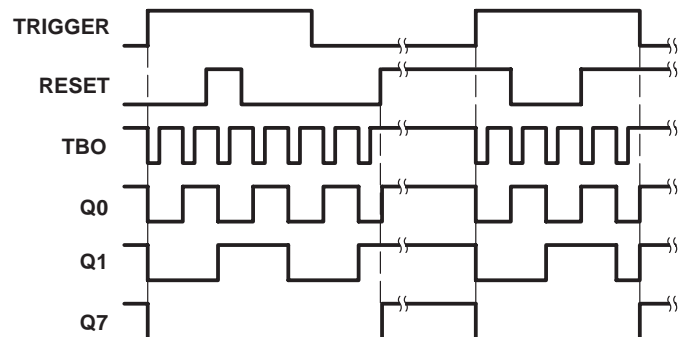

Figure 5. Timing Diagram of Output Waveform
Figure 5 shows voltage waveforms for typical operation of the uA2240C. If both RESET and TRIGGER are low during power up, the timer/counter will be in a reset state with all binary (Q) outputs high and the oscillator stopped. In this state, a high level on the trigger input starts the time-base oscillator. The initial negative-going pulse from the oscillator sets the Q outputs to low logic levels at the beginning of the first time-base period. The uA2240C will ignore any further signals at the TRIGGER until after a reset signal is applied to RESET. With TRIGGER low, a high level at the reset input will set Q outputs high and stop the time-base oscillator. If the reset signal occurs while TRIGGER is high, the reset is ignored. If RESET remains high when TRIGGER goes low, the uA2240C will reset.